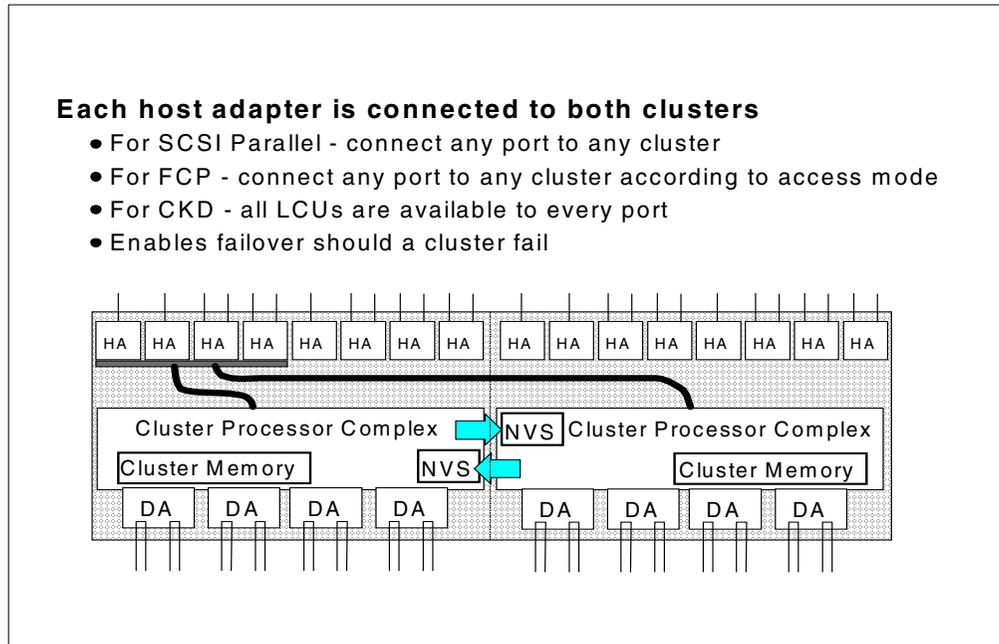

Figure 35. Data flow — host adapters
The *host adapters* (HA) are the external interfaces to the Enterprise Storage Server. They provide two ESCON or SCSI link ports, or one FICON or FCP port. Each HA plugs into a bus in its bay and the bus is connected to both clusters (black lines in Figure 35).